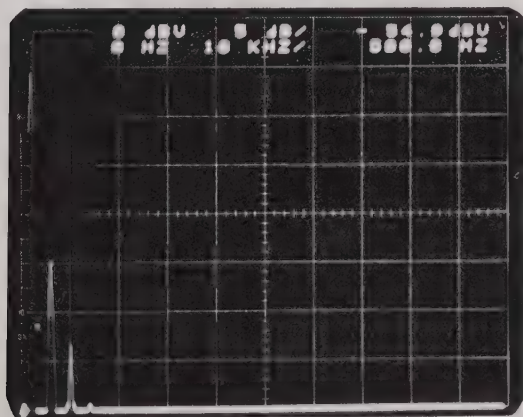

Fig. 4-9a Spectrum Amplitude Set at 5 dB/Div.; Spectrum Gain = 0 dB
- b. Move the SPECTRUM AMPLITUDE to 5 dB/div , (Fig. 4-9a). Jog the SPECTRUM GAIN up three (3) times. The top of the display range will move from 0 dB V to - 60 dB V (Fig. 4-9b). The lower level signals are now seen with more detail. Jog the SPECTRUM GAIN down three (3) times, thus returning to the display without gain. "G" is also removed from the screen.